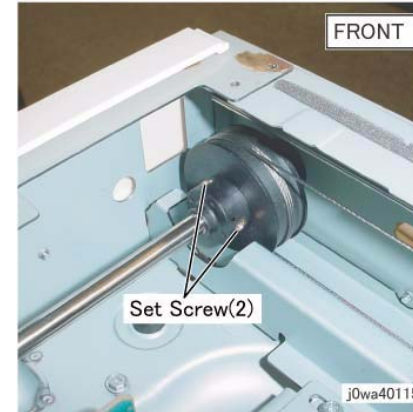

Figure 2 Tighten the front pulley
7. Check that the Pulley at the front side is firmly secured. If the Pulley is loose, tighten the set screws (x2). (Figure 2)